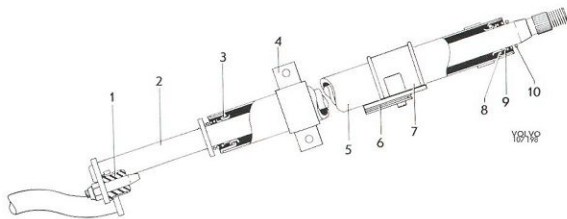

Fig. 6-40. Steering column journalling
The steering column is divided. Its upper section is journalled by means of two ball bearings in a jacket, which is attached to the body by means of a rubber bush (4, Fig. 6-40) and slide (6). The lower and upper sections of the steering column are linked by means of a safety device (1). In the event of frontal collision causing compression of the front end, the lower steering column flange breaks loose from that of the upper section and the lower section pushes upwards. The upper section remains in position and this eliminates possibility of the steering wheel being forced backwards and upwards inside the car.